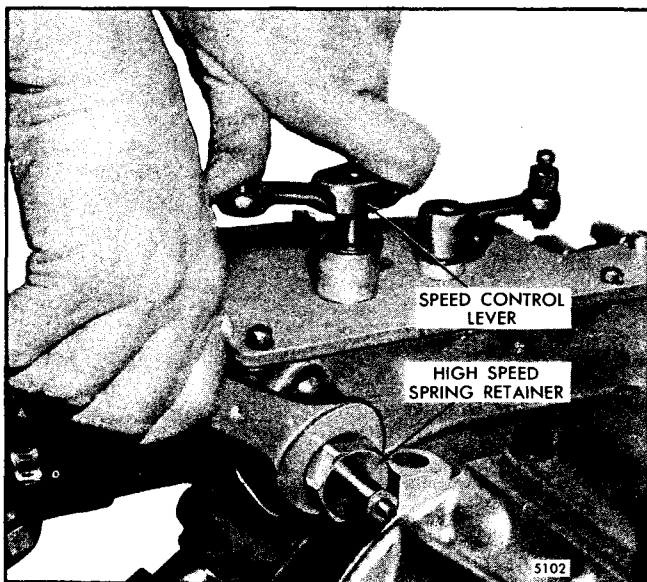

Fig. 7 - Adjusting Maximum No-Load Speed
ENGINES WITH STANDARD LIMITING SPEED MECHANICAL GOVERNOR (Fig. 7)
1. Loosen the spring retainer lock nut (Fig. 7) and back off the high-speed spring retainer approximately five turns.